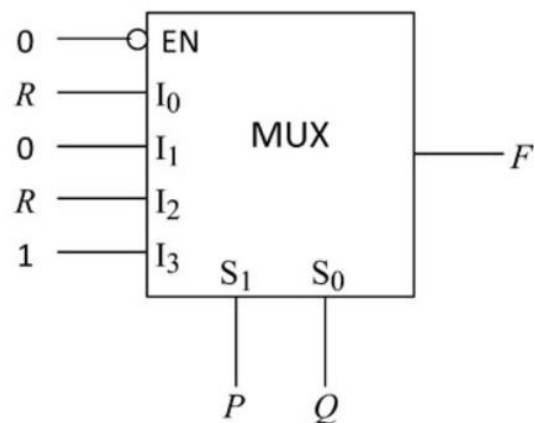

Fig. 4.30
53. Fig. 4.30 below shows a multiplier where  $S_1$  and  $S_0$  are select lines,  $I_0$  to  $I_3$  are the input data lines,  $EN$  is the enable line, and  $F(P, Q, R)$  is the output.  $F$  is (GATE EC 2020)